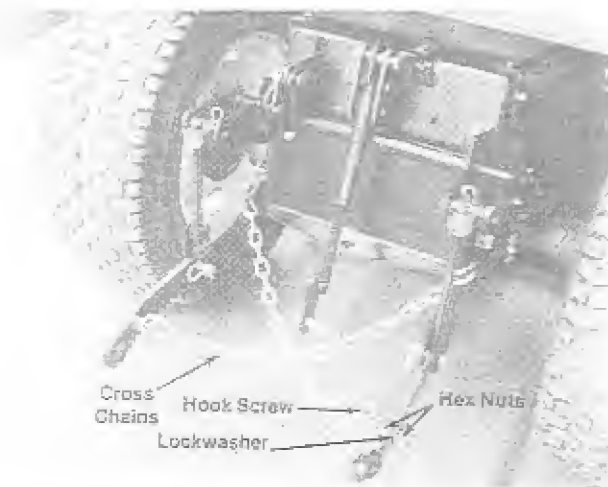

FIGURE 7.
8. Screw one hex nut all the way on to each of the hook bolts. See figure 7.